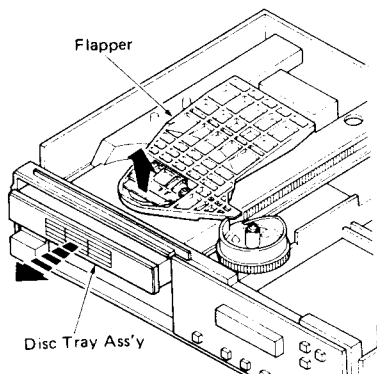

Fig. 2
- Lift Flapper as shown in fig. 2, and pull Disc Tray Ass'y forward.